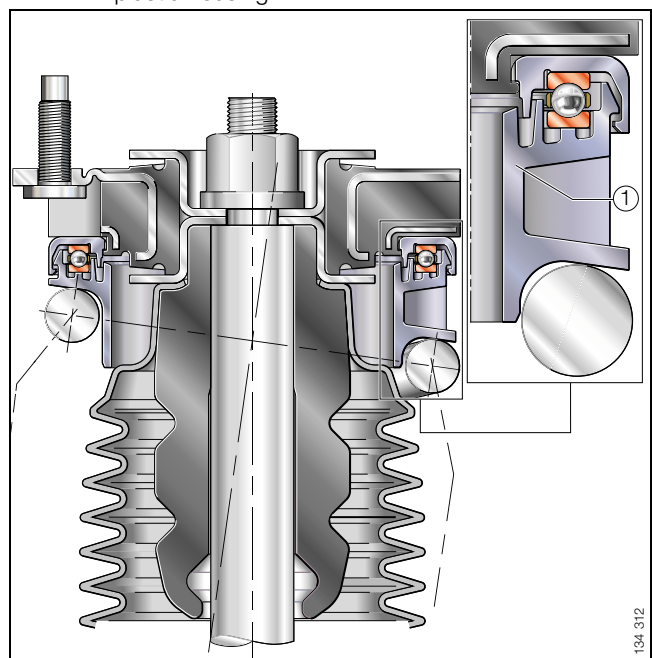

Figure 10 · Housing contour with simulated spring pitch
Figure 10 shows a housing with a simulated spring pitch ①. This design is optimized in terms of mounting space and costs.